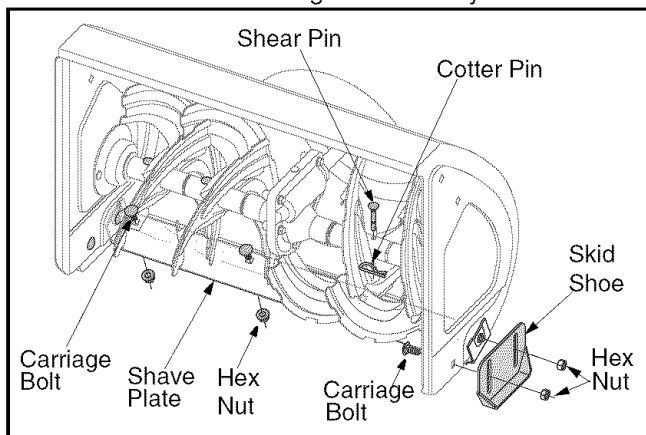

Figure 10
1. Remove the four carriage bolts, and hex nuts which attach skid shoes to the snow thrower on two sides. See Figure 10 .
3. To remove shave plate, remove skid shoe and rest of the hardware including carriage bolts, and hex nuts which attach shave plate to the snow thrower housing. For location of shave plate, see Figure 10.
The augers are secured to the spiral shaft with four shear pins and cotter pins. See Figure 10 . If you hit a foreign object or ice jam, the snow thrower is designed so that the pins may shear.